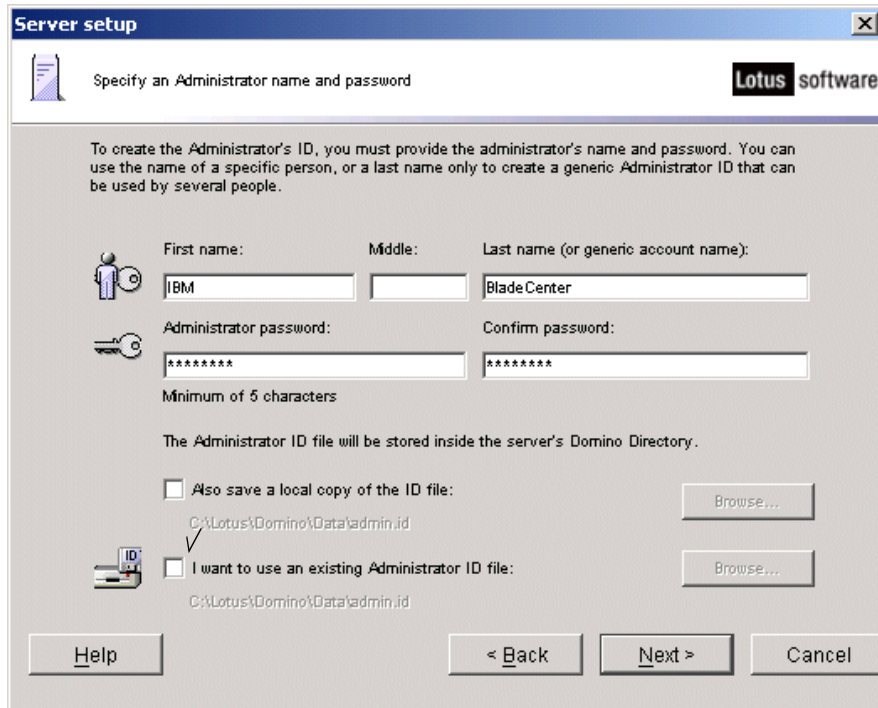

Figure 4-6 Administrator name and password window
11. Now it is time to set up your Administrator name and password. You will see a window similar to Figure 4-6 on page 42.